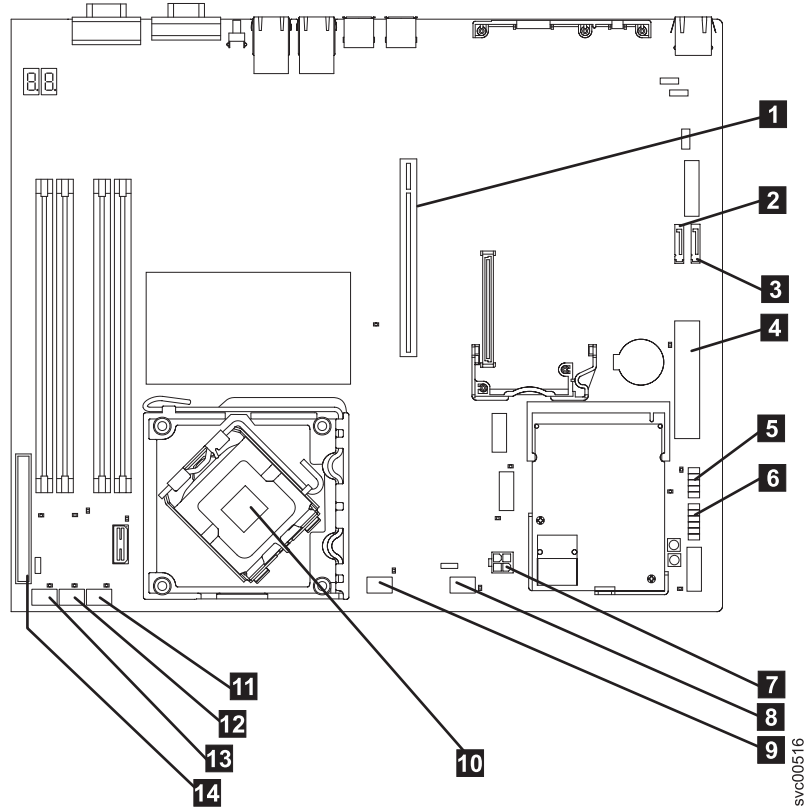

Figure 265. Connectors that are used on the SAN Volume Controller 2145-8A4 system board
7. Mark the cables to ensure that you know where each one goes. Figure 265 on page 285 shows the connectors on the SAN Volume Controller 2145-8A4 system board.